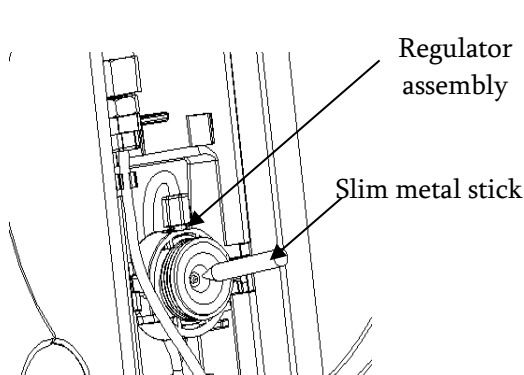

Figure 31
1. Firstly, pick out the seal washer with a tiny metal stick (Show as figure 31), and take out Cartridge pierced probe. Be careful not damage other parts of regulator.